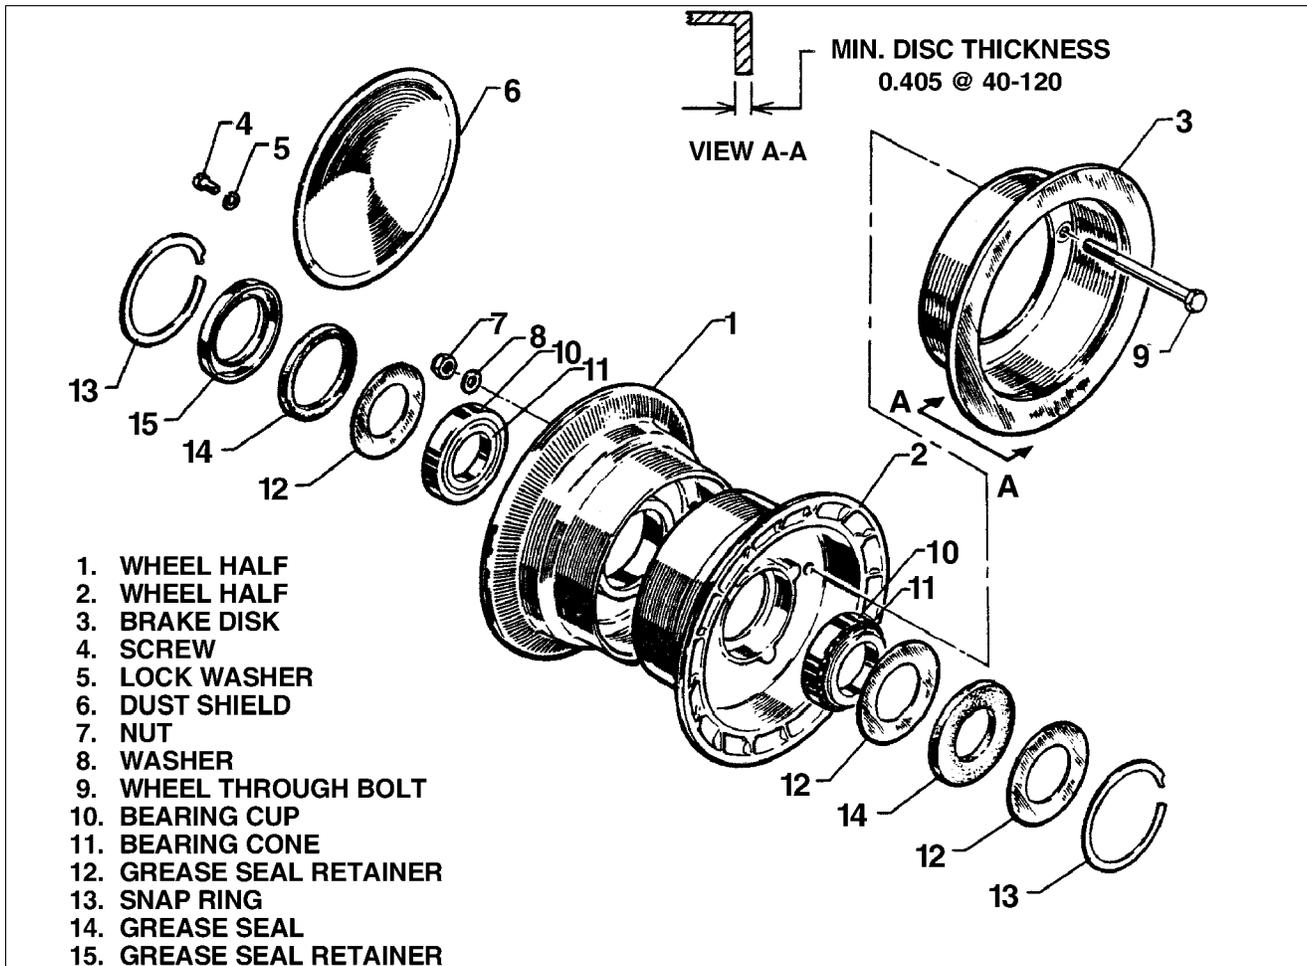

Figure 32-18. Main Wheel Assembly
1. Removal and Disassembly of Main Wheel. (Refer to Figure 32-18.)
3. Assembly and Installation of Main Wheel. (Refer to Figure 32-18)